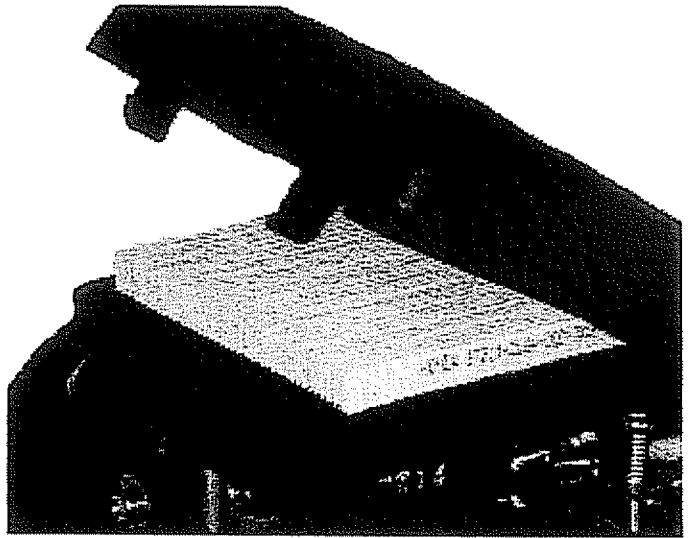

Figure-8
- Push in on tabs and lift outside edge (Figure-8).